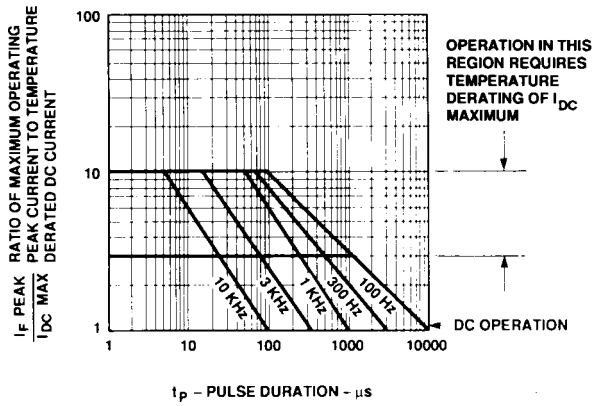

Figure 6. Maximum Tolerable Peak Current vs. Pulse Duration - HER Series.
- See Figure 6 to establish pulsed conditions.